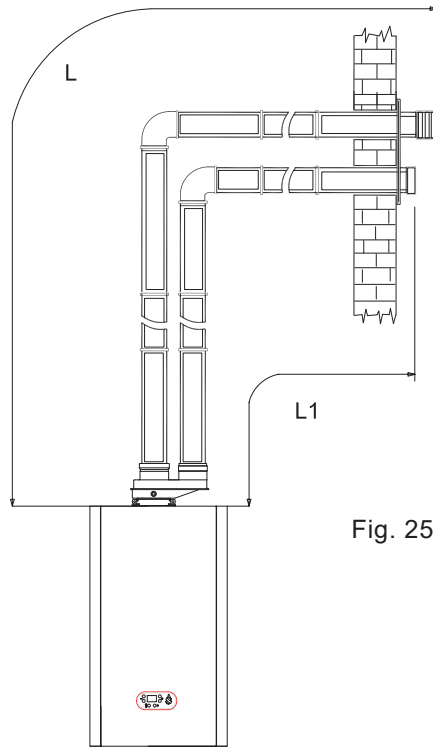

Fig. 25
5.17 Exhaust/suction system with two separate pipes through a single vertical wall (fig. 25).